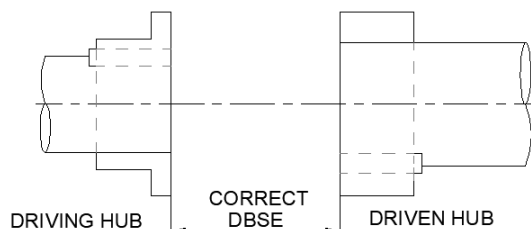

Fig. 4 HUB Mounting
3.2.3 Straight Bore with clearance fit (Fig.4)
- RLM/RLMK couplings are supplied with fully assembled condition with tightened cleveoc nuts(7) at RTPL to specified tightening torque (Table 3).
- Ensure hubs have been mounted as shown in fig.4,to maintain correct DBSE .